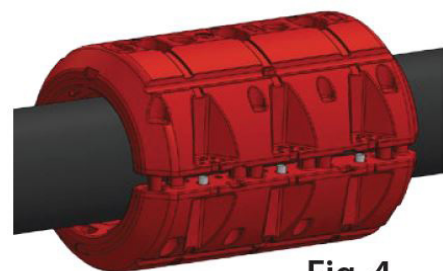

Fig. 4
5. Tighten the bolts equally around the float (Fig. 4)